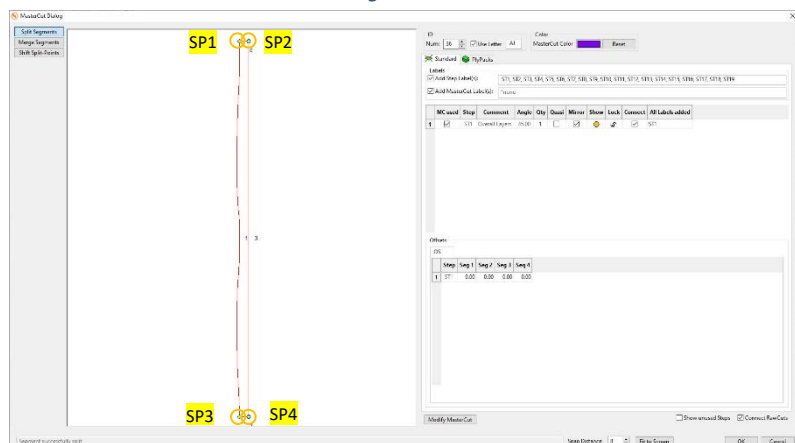

Figure 296
92. ... and for MasterCut AJ and split the outer geometry as shown in Figure 296...